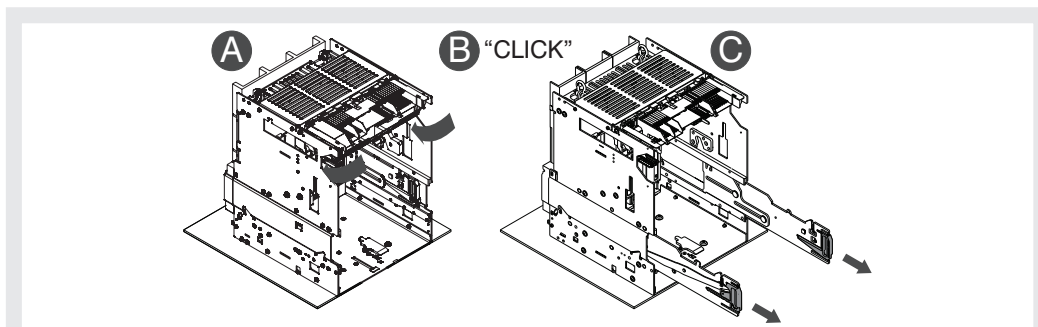

Figure 37
2. Extract the guides of the fixed part using the appropriate levers. See Figure 37.